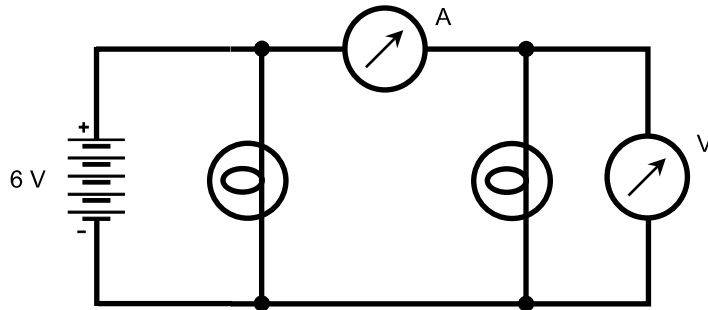

Fig. 4-18. Illustration for Quiz Questions 1 through 5.
- Refer to Fig. 4-18. The battery supplies 6 V. Suppose each of the lamps in the circuit has a resistance of  $120 \Omega$ . What is the resistance of the two lamps together, connected in parallel?
2. Refer to Fig. 4-18. The battery supplies 6 V. Suppose each of the lamps in the circuit has a resistance of  $120\ \Omega$ . What is the ammeter reading?
3. Refer to Fig. 4-18. The battery supplies 6 V. Suppose each of the lamps in the circuit has a resistance of  $120\ \Omega$ . What is the current drawn from the battery?
4. Refer to Fig. 4-18. The battery supplies 6 V. Suppose each of the lamps in the circuit has a resistance of  $120\ \Omega$ . What is the voltmeter reading?
5. Refer to Fig. 4-18. The battery supplies 6 V. Suppose each of the lamps in the circuit has a resistance of  $120\ \Omega$ . If the left-hand bulb blows out, leaving an open circuit in its place, what will happen to the ammeter reading?